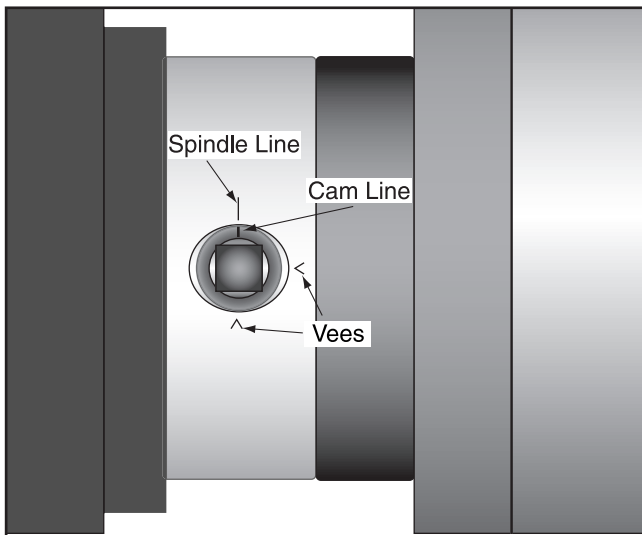

Figure 8. Cam lines aligned to spindle line.
2. Turn a cam, with the chuck key, in the lathe spindle in a counter-clockwise rotation until the line on the cam is aligned with the line going *across* the spindle housing as in **Figure 8**.
The speed of the spindle is controlled by the positions of the speed control knobs. See **Figure 12**. By positioning the knobs using the chart in Figure 8, you can achieve all of these speed ranges: 70, 200, 220, 270, 360, 600, 800, 1000 and 1400 RPM.